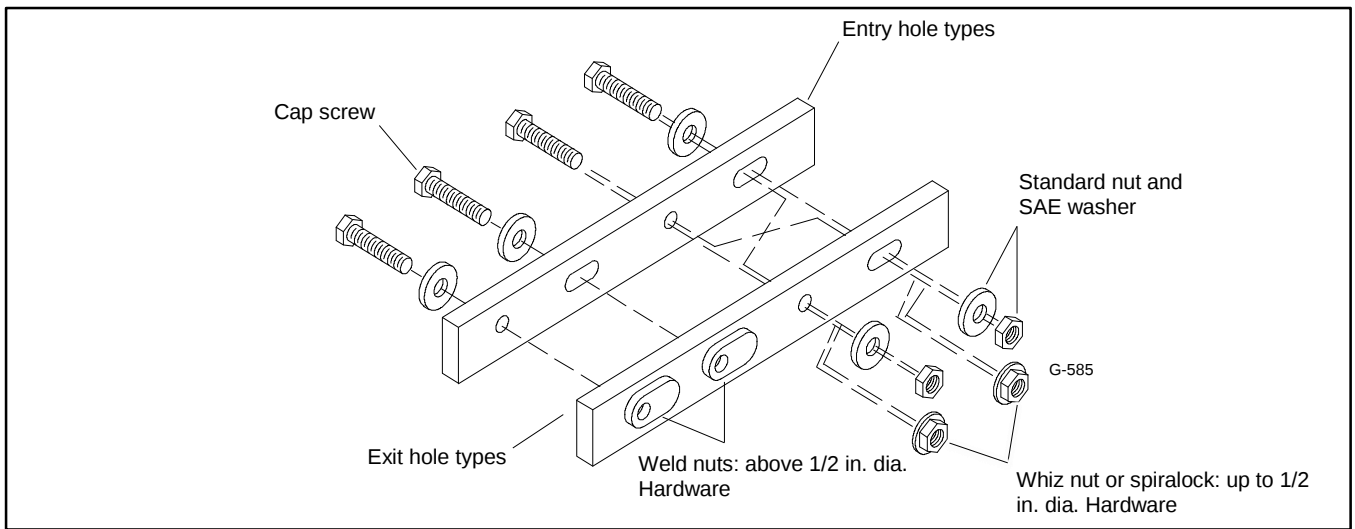

Figure 19 Acceptable Hardware Combinations
3. For round and slotted exit holes, determine if hardware is greater than  $\frac{1}{2}$  inch in diameter, or  $\frac{1}{2}$  inch in diameter or less. Hardware that is greater than  $\frac{1}{2}$  inch in diameter takes a standard nut and SAE washer. Hardware  $\frac{1}{2}$  inch or less in diameter can take a properly torqued whiz nut or spirallock nut. See Figure 19.
5. Refer to Figure 19, which depicts the preceding hardware configuration possibilities.